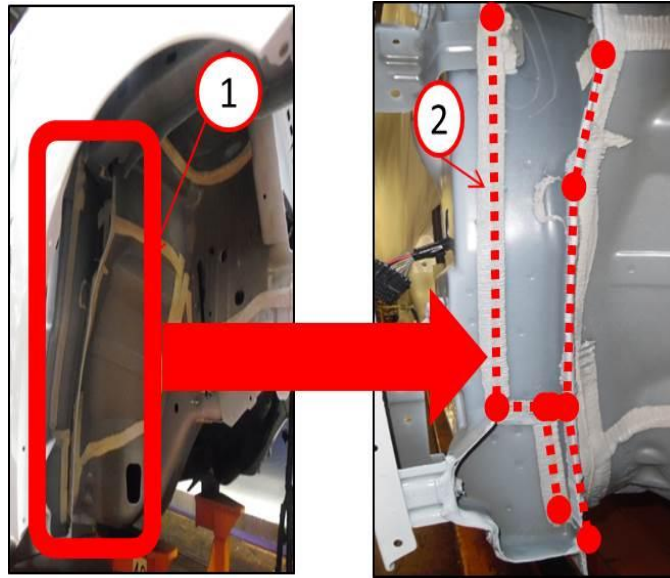

Fig. 5 Wheel House Sealant Location
4. Inspect the wheel house opening (Fig. 5).
- b. NO>>> Proper Sealant is applied and no further action needed at this location (Fig. 5). Proceed to Step #8.
6. Apply the sealant at the locations with the dotted lines to the affected area (Fig. 5).